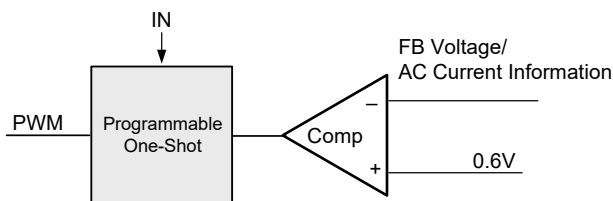

Figure 3. Simplified Control Schematic of AOZ2263NQi-11
The simplified control schematic is shown in Figure 3. The high-side switch on-time is determined solely by a one-shot whose pulse width can be programmed by one external resistor and is inversely proportional to input voltage (IN). The one-shot is triggered when the internal 0.6V is higher than the combined information of FB voltage and the AC current information of inductor, which is processed and obtained through the sensed lower-side MOSFET current once it turns-on. The added AC current information can help the stability of constant-on time control even with pure ceramic output capacitors, which have very low ESR. The AC current information has no DC offset, which does not cause offset with output load change, which is fundamentally different from other V² constant-on time control schemes.